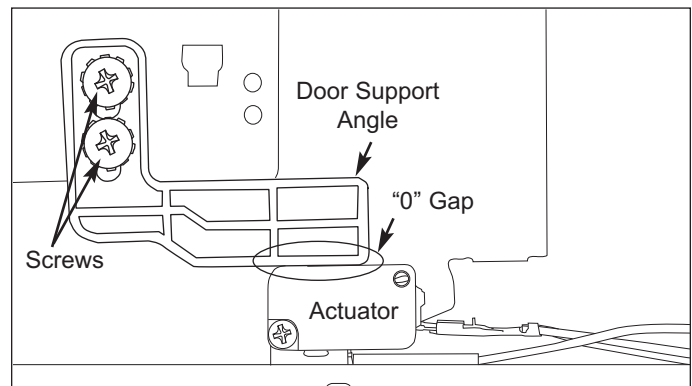

Figure 4-14. Actuator Removal/ Adjustment
4. Locate either the right or left actuator and remove the two mounting screws holding the actuator to the door support angles (See Figure 4-14).
7. Adjust each actuator to fully depress ("0" gap) switch lever switches on left and right side (See Figure 4-14).